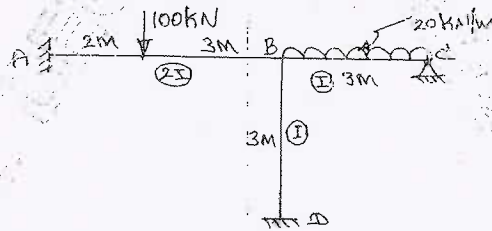

Fig. Q3
- 3 Analyse the given frame shown in Fig. Q3 by moment distribution method and draw BMD and SFD. (20 Marks)